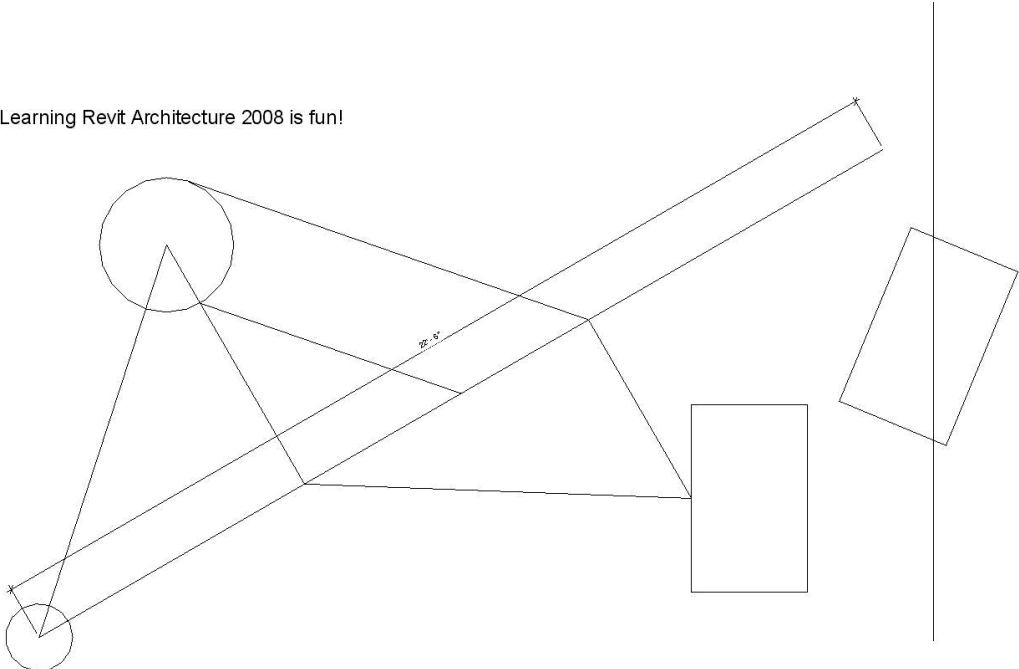

Figure 3-4.5 Text tool; text added to current view
Your text should generally look similar to Figure 3-4.5. Text can be Moved and Rotated with the tools on the *Modify* toolbar.
9. Print your drawing, refer back to page 2-15 for basic printing information; your print should fit the page and look similar to Figure 3-4.5.